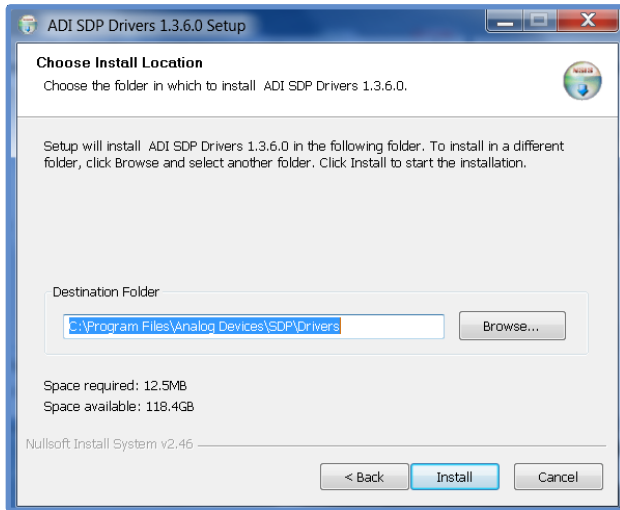
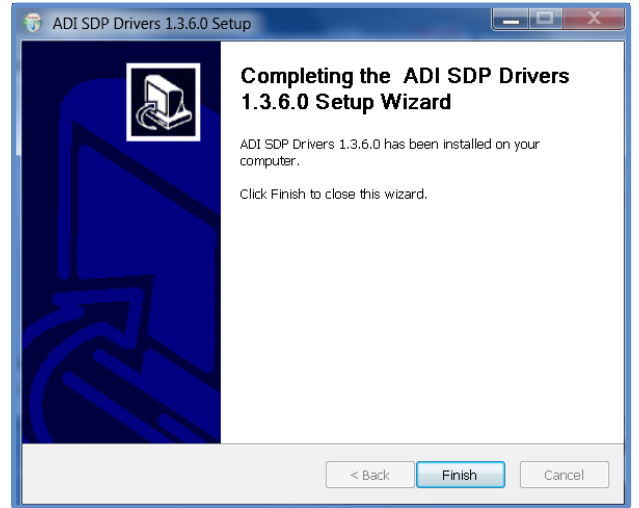
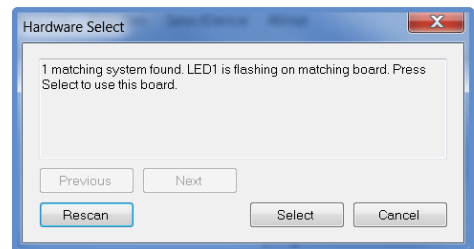

Figure 6. USB (SDP) Driver Setup Window
Figure 7. USB Driver Installation Confirmation Window
Figure 9. Hardware Select Window, Select Option Enabled
and Figure 6 to Figure 9, Added Software Operation Section,
The **SDPDrivers.exe** file contains USB drivers that are compatible with both 32-bit and 64-bit Windows-based systems. Double-click the **SDPDrivers.exe** file and follow the prompts to install the USB driver files onto the PC. Figure 6 and Figure 7 show the windows associated with this process.
3. After LED1 illuminates, click **Rescan** in the **Hardware Select** window. LED1 starts blinking, and the **Hardware Select** window updates with an option to select the device (see Figure 9).